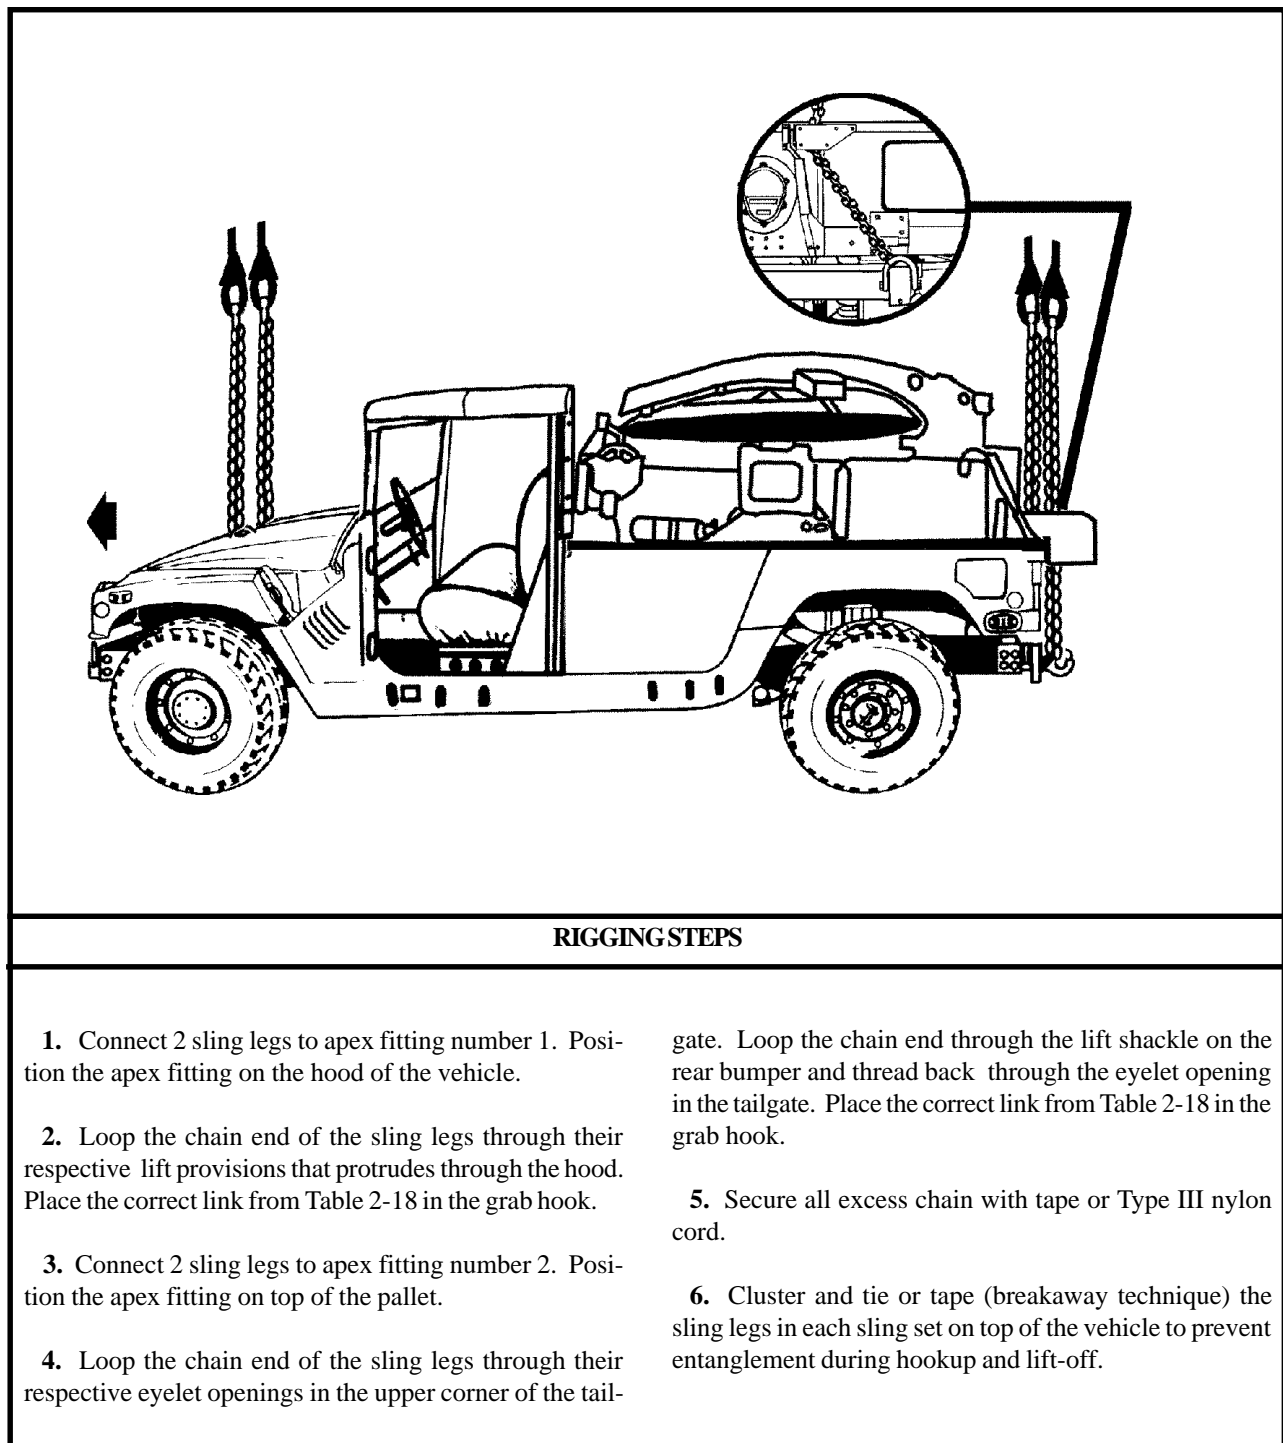

Figure 2-17. M1097A2 (H-HMMWV) With the Secure Mobile Anti-Jam Tactical Terminal (SMART-T)
(2) **Rigging.** Rig the load according to the steps in Figure 2-17.
(4) **Derigging.** Derigging is the reverse of the preparation and rigging procedures in steps d (1) and d (2).